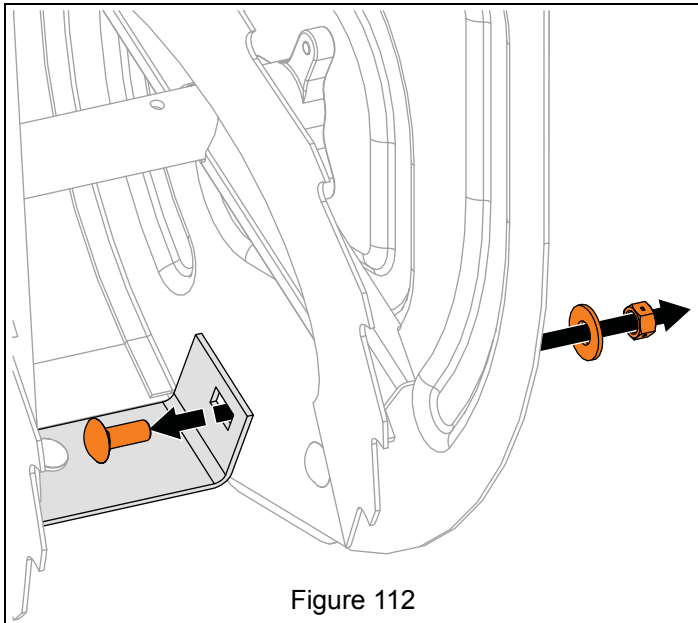

Figure 112
3. Remove hardware securing scraper blade ends to auger housing. See Figure 112.